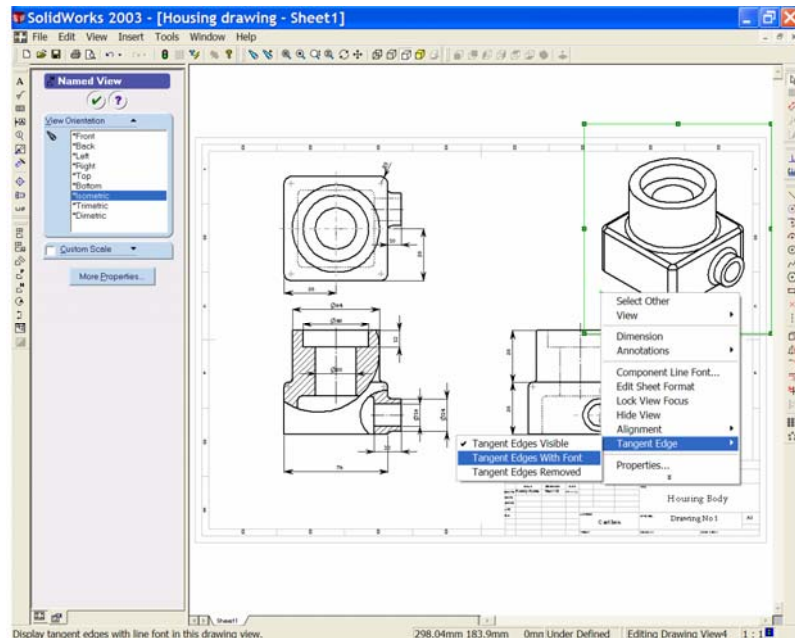

Figure 46
39. Right click close to the **ISOMETRIC VIEW** and from the short-cut menu select '**Tangent Edge**'. A further menu slides out to the side and offers three choices; '**Tangent Edges Visible**', '**With font**' or '**Removed**'. Choose '**Tangent Edges With Font**'. Your model will now display the Isometric view tangent edges as phantom lines. See Figure 46.